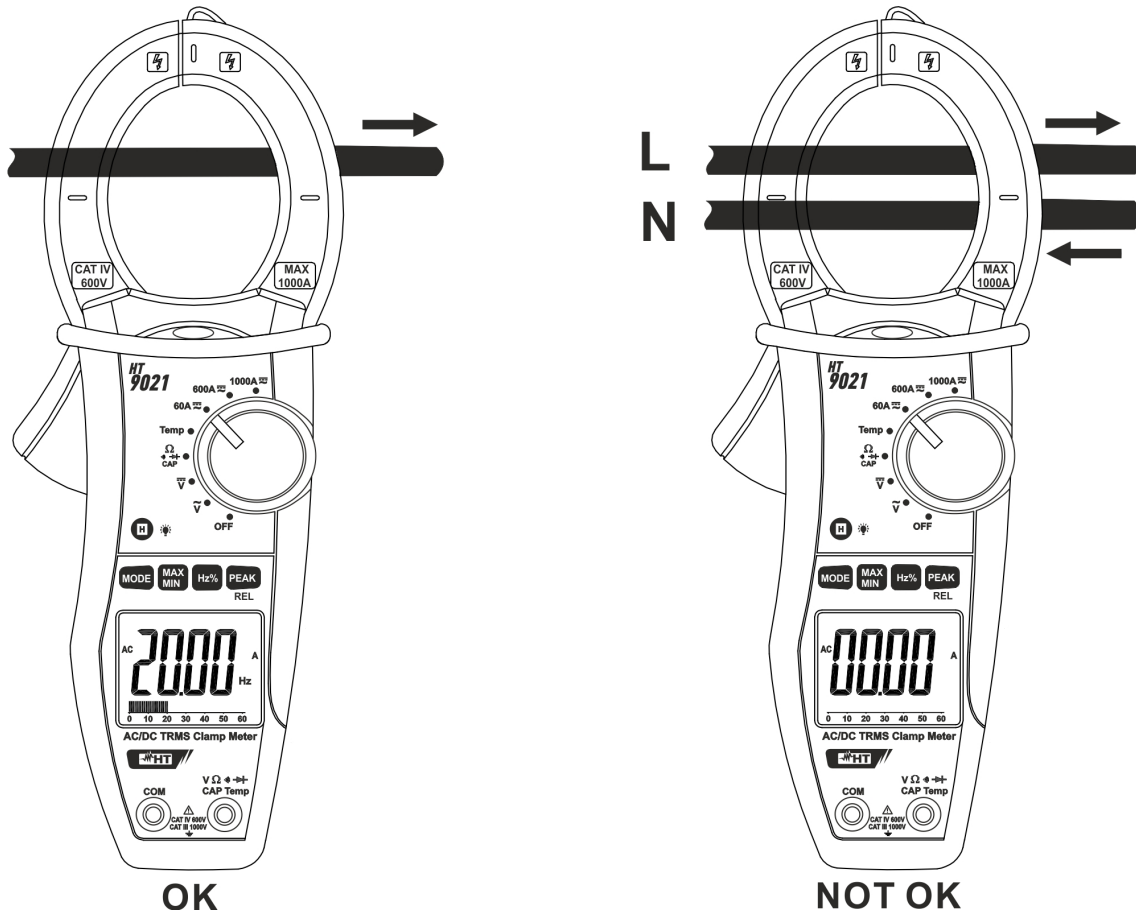

Fig. 9: Taking AC and DC current measurements
5. On DC current measurement the "-" symbol at display means that the meter is connected in the opposite side compared with current direction (see Fig. 9)